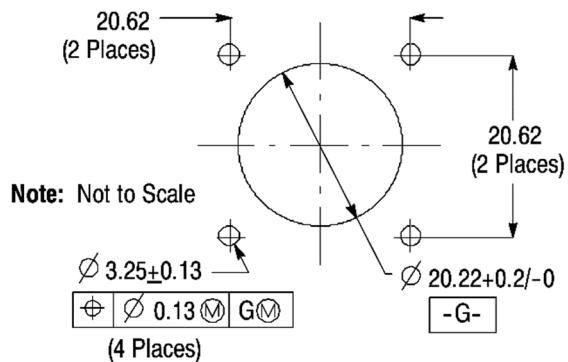

Figure 11
1. Cut the panel using the dimensions provided in Figure 11.